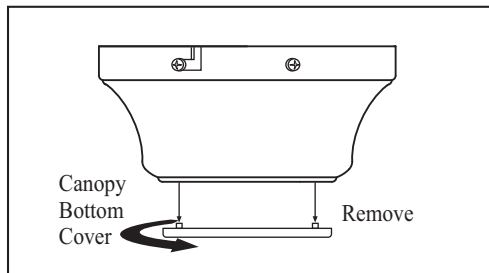

Figure 7
2. Remove the decorative canopy bottom cover from the canopy by turning the canopy bottom cover counterclockwise. (Figure 7)